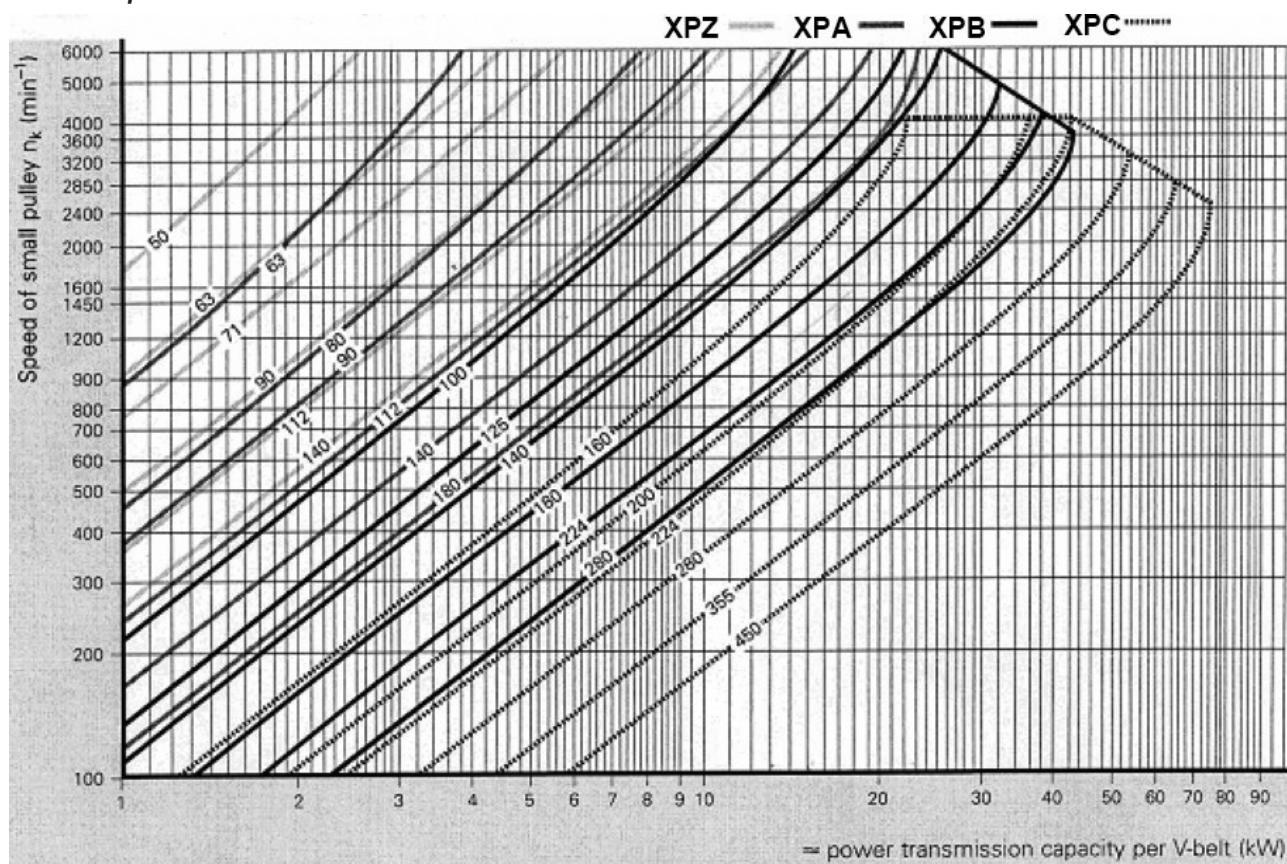
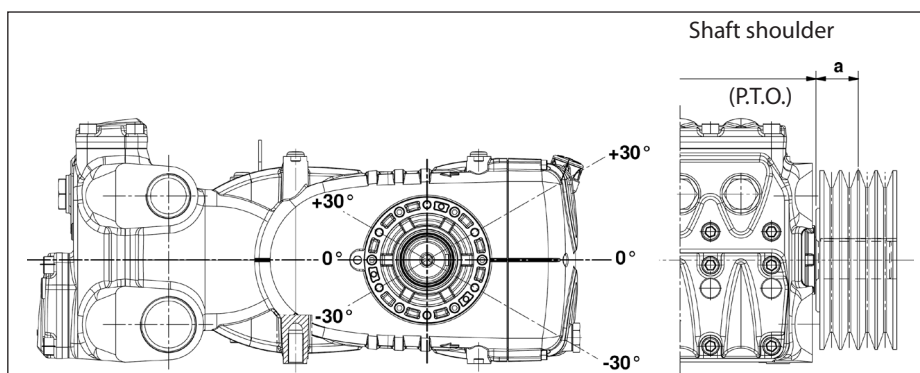

Fig. 8
Fig. 11
For this pump model, we recommend use of 4 XPB belts (16.5x13 serrated). Use an XPC profile only for long durations. Both the characteristics and transmissible power of each belt can be verified in the diagram in Fig. 8, in relation to the number of rpm normally declared by the manufacturer. Minimum duct pulley diameter (on pump shaft): ≥ 250 mm. The radial load on the shaft must not exceed 7500 N (value necessary for Layout definition). The transmission is considered adequate if the load is applied to a maximum distance $a = 40$ mm from the shaft shoulder (P.T.O) as shown in Fig. 11.
- b) Use high performance belts – for example **XPB** instead of **SPB** – as a lower quantity of belts for the same transmitted power may be necessary and a consequent shorter resulting distance compared to the shaft shoulder (P.T.O) "a" of Fig. 11.
- e) Follow the direction of the belt pull as shown in Fig. 11 for other needs, contact our **Technical** or **Customer Service Departments**.